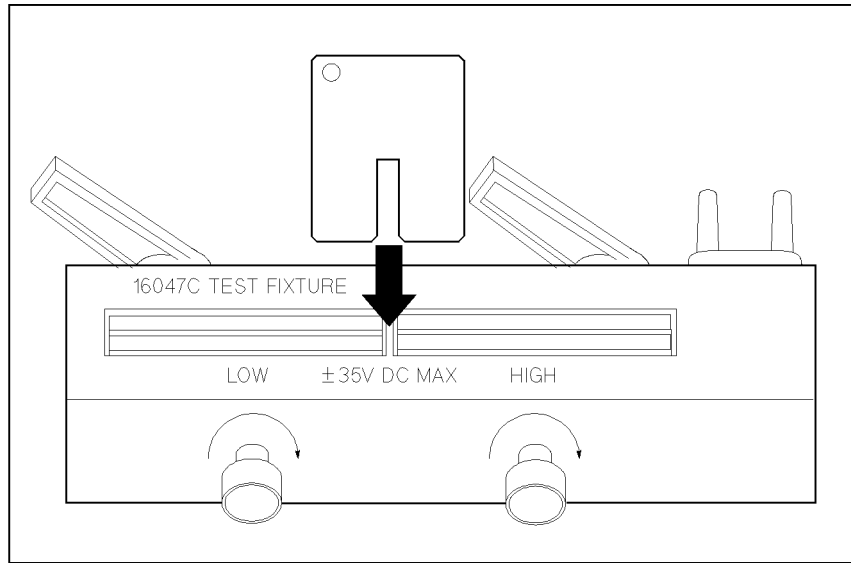

Figure 3-11. Connecting A Shorting Bar
- f. Connect a shorting bar to the 16047C to set up the SHORT condition as shown in Figure 3-11.